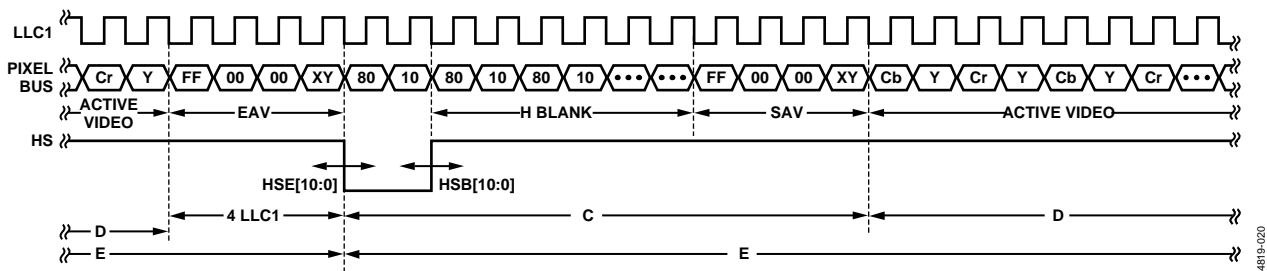

Figure 20. HS Timing
The position of this edge is controlled by placing a binary number into HSB[10:0]. The number applied offsets the edge with respect to an internal counter that is reset to 0 immediately after EAV code FF,00,00,XY (see Figure 20). HSB is set to 00000000010b, which is 2 LLC1 clock cycles from count[0].
**Table 100. HS Timing Parameters (see Figure 20)**
| Standard          | HS Begin Adjust (HSB[10:0]) 1 | HS End Adjust (HSE[10:0]) 1 | HS to Active Video (LLC1 Clock Cycles) (C in Figure 20) 1 | Active Video Samples/Line (D in Figure 20) | Total LLC1 Clock Cycles (E in Figure 20) |
The position of this edge is controlled by placing a binary number into HSE[10:0]. The number applied offsets the edge with respect to an internal counter that is reset to 0 immediately after EAV code FF,00,00,XY (see Figure 20). HSE is set to 00000000000b, which is 0 LLC1 clock cycles from count[0].